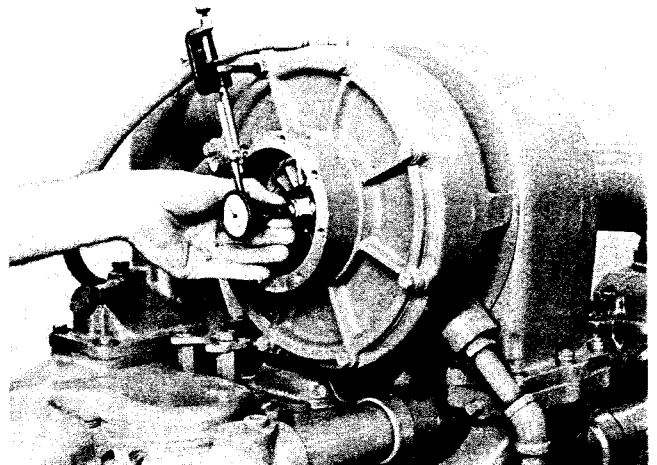

Fig. 5-43. Checking turbocharger bearing clearance
1. Remove exhaust and intake piping from the turbocharger to expose ends of rotor assembly. Fig. 5-43.